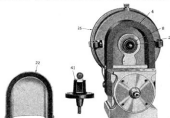

Fig. 19
Figure 19 shows the type U-6 magneto viewed from the shaft or driving end with the waterproof hood (22) and brush holder (41) removed. The shaft end plate is cast integral with, and is a part of, the magneto frame. The collector brush contacts with the collector thru the hole in the top of the shaft end plate and the brush holder is secured to